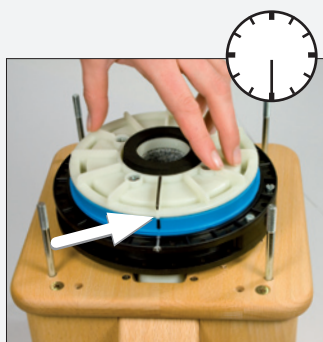

Figure 8
- Push the stone down gently from above and screw it back until it locks into place (one complete revolution and then to approximately "10 o'clock"). For this, see figure 8.